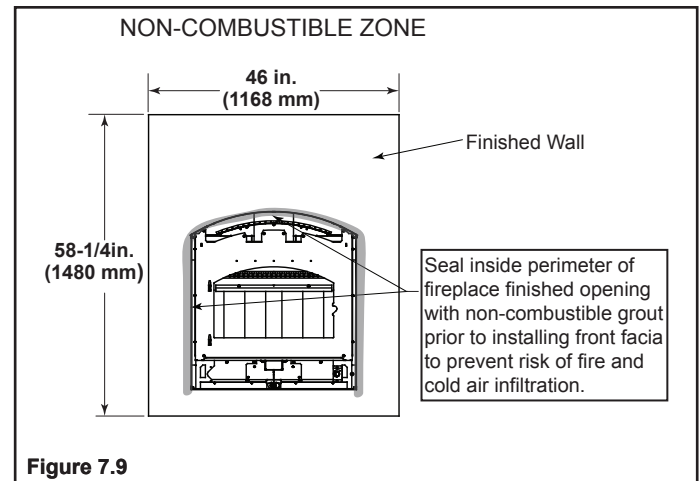

Figure 7.9
- A bead of non-combustible sealant must be used to close off any gaps at the top and sides between the fireplace and non-combustible facing (Figure 7.9) to prevent cold air leaks and the risk of fire. Large gaps can be bridged with fiberglass rope gasket.